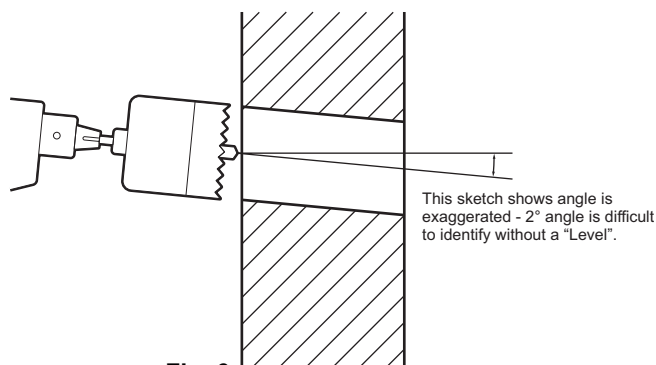

Fig. 6
- Before creating the Balanced Flue wall hole, ensure the wall cavity is free of electrical wires, gas & water pipes and other obstacles. Carefully Drill a 5 mm "pilot hole" from inside enables the final hole (and any associated "mess") to be completed from outside - note 2° angle Fig 6, Page 19. For homes built or renovated (requiring a Building Consent) after 1991, see notes regarding compliance with NZBC Clause E2 (Wall Underlay Regulations) Page 2 - you must have and refer to separate booklet - Avon **"Balanced Flue Installation Manual"**.
- For ALL heater installations, the Balanced Flue must always be installed horizontal with slight fall to outside to ensure storm water drains to outside.... - Page 19, Para 4, Fig 6.
4. Install the Balanced Flue Pipe with a (2°) slight downward slope to outside, (See Fig. 6), to prevent ingress of rain or any other water source (watering systems etc). Before drilling the final size hole for the Balanced Flue, we recommend first, pierce the wall with a small "pilot hole", right through the wall (say 5mm diameter) from inside to outside. This method enables the angle of the final hole to be better controlled. Then enlarge the hole (to between 70mm and 80mm), starting from outside and maintaining the downward slope of approx 2° (See Fig. 6). (Warning: if the pilot hole is too big, it may make the final hole drilling difficult).